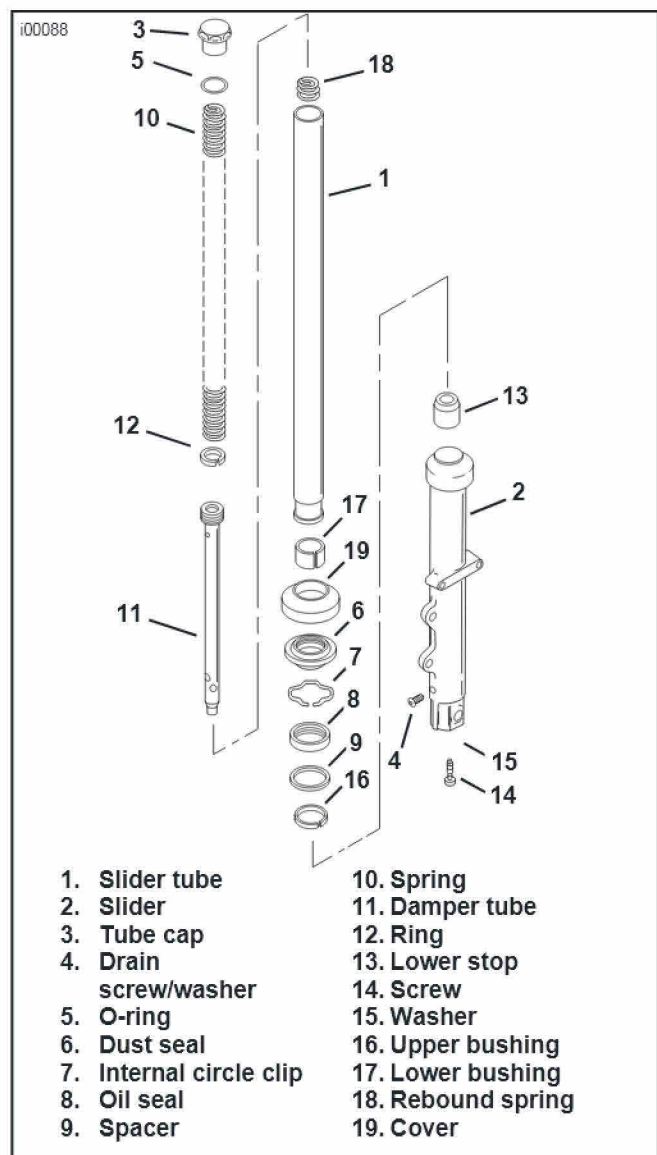
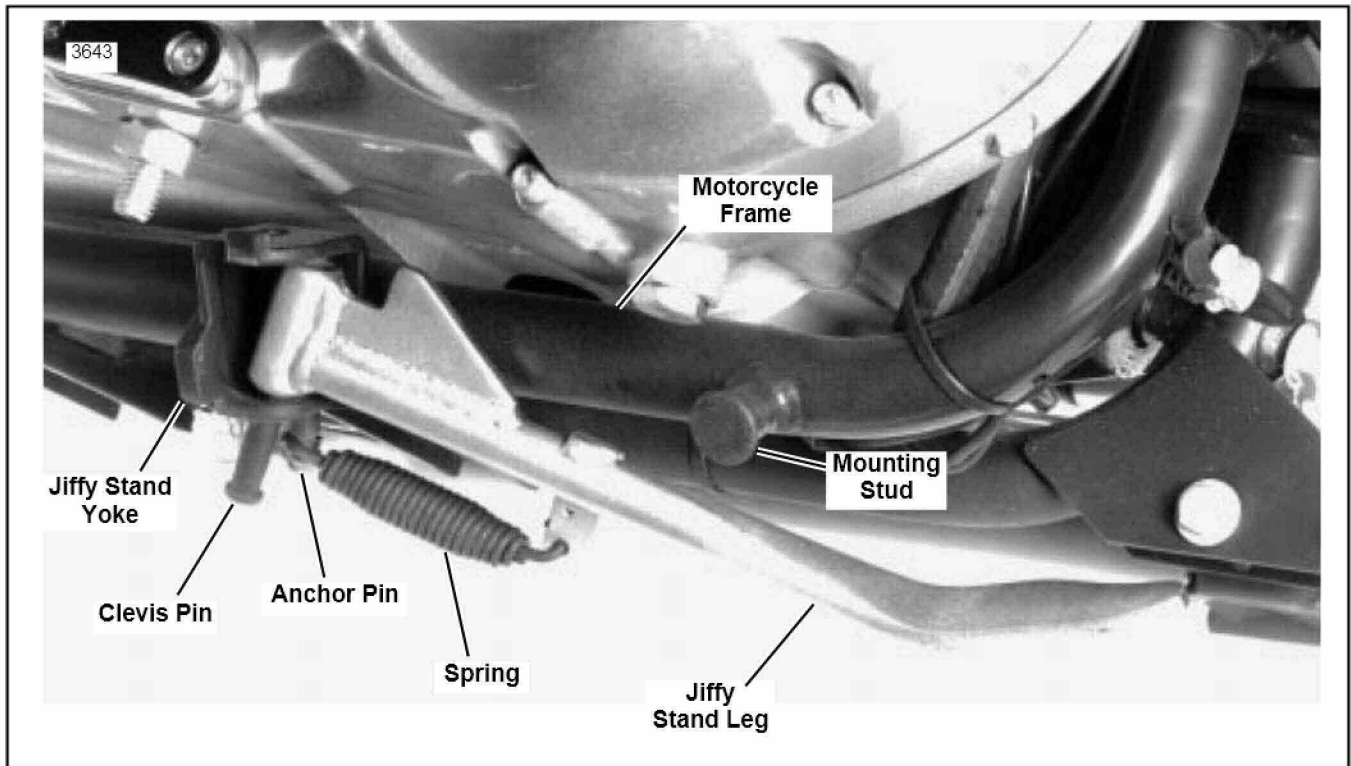

Figure 1. Front Fork Tube/Slider Tube Assembly
Figure 3. Jiffy Stand (Partially Installed)
3. See Figure 1. Assemble the front fork tube/slider assemblies using the new springs (10), new damper tubes/rings (11 and 12), new lower stops (13), and new socket bolts and washers (14 and 15) provided in the kit, along with the longer 1994-style (and later) slider tubes (1) previously specified. Refer to the XLH Service Manual for detailed assembly instructions.
4. Fill each slider tube/slider assembly with the amount of TYPE "E" FORK OIL specified for XLH 883 HUGGER models (dry fork); that is, 12.1 fl oz. (358 ml). Verify that the slider tubes (1) are properly secured and positioned so that the top of each tube cap (3) extends 0.42-0.50 inches (10.7-12.7 mm) above the top surface of the front fork upper bracket.
5. See Figure 3. While firmly holding jiffy stand leg in fully retracted position, withdraw clevis pin until it disengages with the upper pivot hole of jiffy stand yoke.
2. See Figure 3. Hook either end of spring into spring mounting hole on jiffy stand leg. Install loose end of spring over anchor pin.